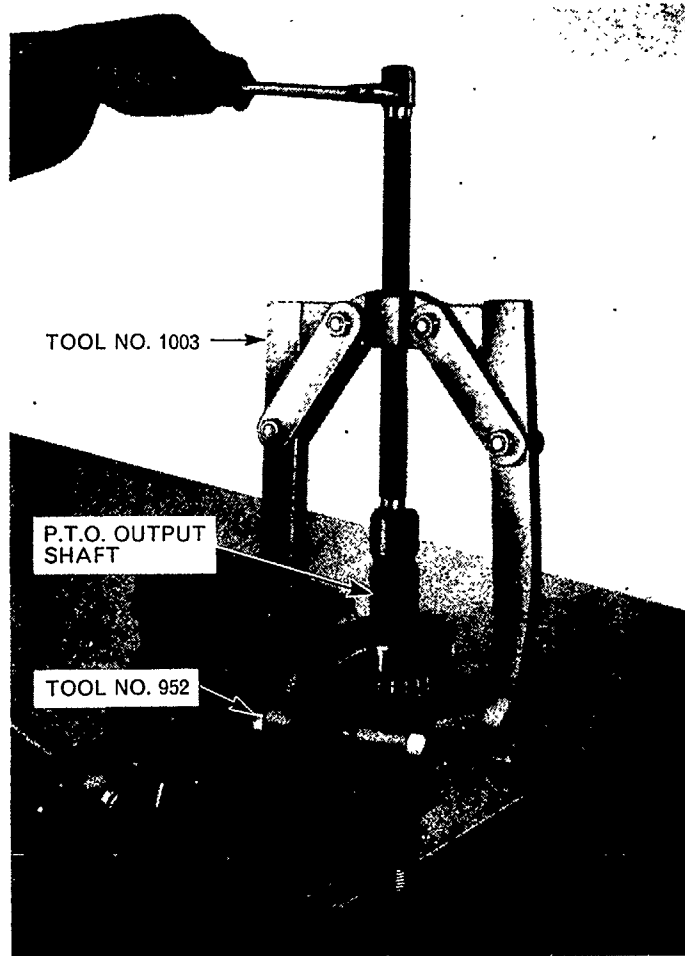

Figure 29
10. Remove the cone and roller from the output shaft using Tools Nos. 952 and 1003, Figure 29.